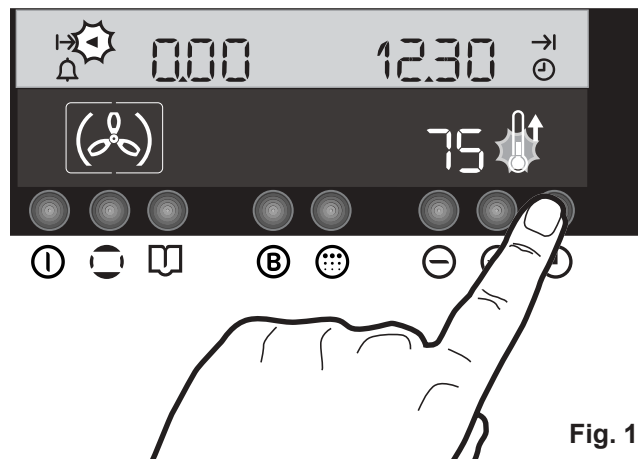

Fig. 12
2. Press the "Time Function" button . The symbol  flashes near the "Cooking Duration" symbol . The time display shows "0.00" at the left hand and the current time of day at the right hand (Fig. 12).